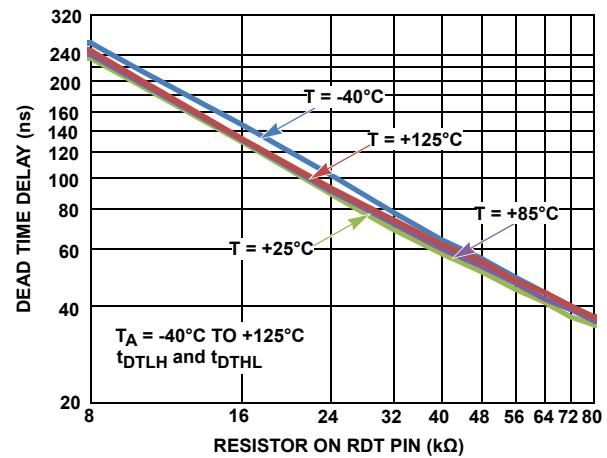

FIGURE 9. DEAD TIME DELAY vs RDT RESISTOR
1. The dead time of the HO and LO signal is set to 35ns with an 80k $\Omega$  resistor from the RDT pin to GND. To change the dead time, replace the resistor at R20 with the value corresponding to the desired dead time. See Figure 9.
The ISL78420 features a dead time control circuit for programming the delay between the falling edge of HO to rising edge of LO and between the falling edge of LO to rising edge of HO. A single resistor from the RDT pin to GND adjusts the dead time from 35ns (80k $\Omega$ ) to 220ns (8k $\Omega$ ). The ISL78420EVAL1Z contains a 80k $\Omega$  resistor at R20 which sets the dead time to 35ns. Refer to Figure 9 for selecting a resistor value for the desired dead time.